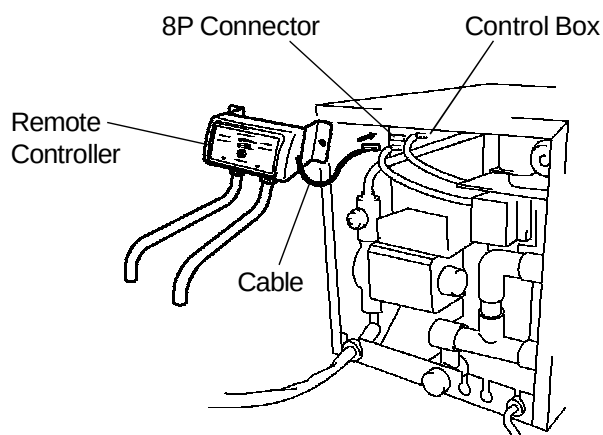

Fig. 8
- 2) Connect the cable connector on the Remote Controller with the 8P connector on the back of the Control Box. See Fig. 8.